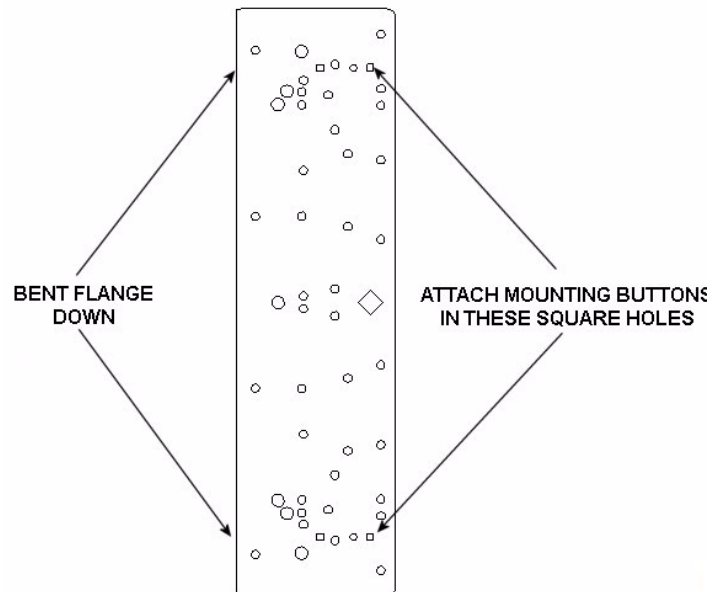
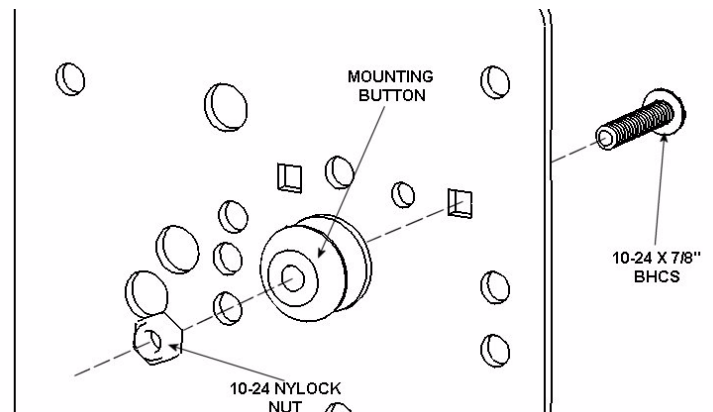

Figure 2. Bracket with Bent Lip Down
Figure 3. Button Installation
Each interface bracket has square holes for attaching mounting buttons (See Figure 2). These holes are arranged in a 14" vertical spacing pattern. When the proper hole pattern is used, the mounting buttons will form a 14" X 14" pattern when installed on your display. The following steps will explain how to attach the mounting buttons.
1. Lay the interface brackets out with the bent lip of each interface bracket down (see Figure 2).
3. Using the mounting buttons and hardware in the parts bag labeled A, attach the mounting buttons in the square holes closest to the outside edge of each interface bracket (see Figure 2 and Figure 3).